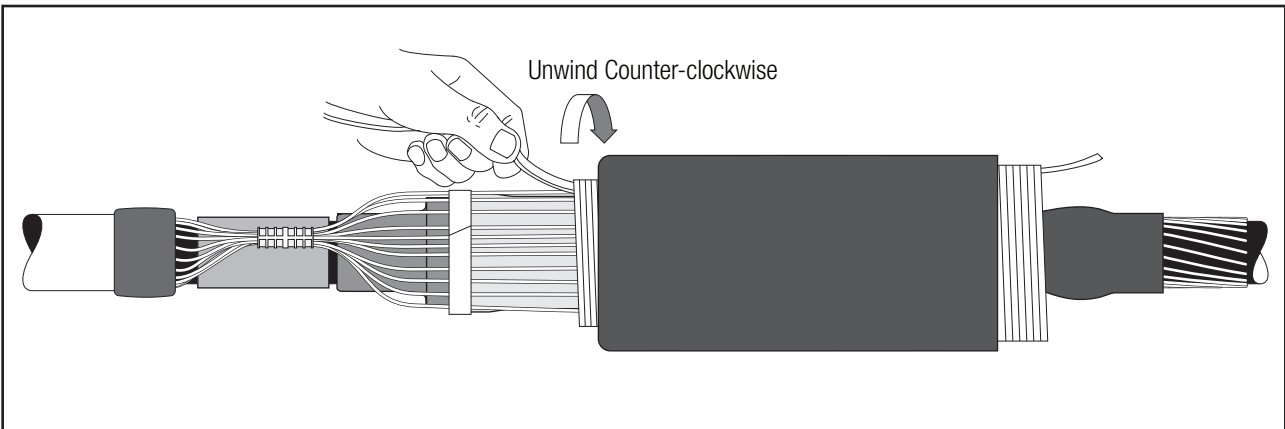

Figure 46
- 12.2 Begin to install the cold shrink tube by completely covering the rubber mastic, and slowly pulling and unwinding the inner core counterclockwise toward the splice body. The outer core should remain relatively stationary while unwinding the inner core. If the outer core begins to move towards the first mastic seal, gently pull the outer core and jacketing tube towards the second mastic seal and continue unwinding the inner core (*Figure 46*).